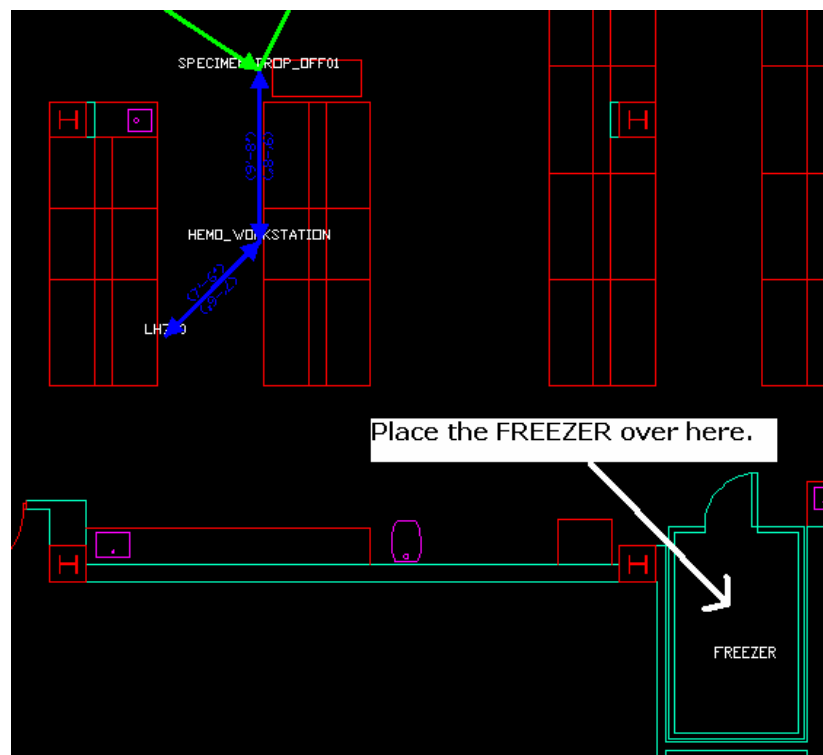

Figure 12
STEP 15: Select the **Calculate** button to re-Calculate the workstation cycle time and paths. Since you added a new location that has not yet been placed in the drawing, the WPP will alert you to this fact. A prompt that reads, “Some Locations are missing, Select OK to add them” will appear. Selecting **OK** on this window will take you into the AutoCAD window and allow you to select the position for the missing location. Now select a position in the drawing for our FREEZER. The FREEZER is the bottom right hand corner of the drawing (See Figure 12)